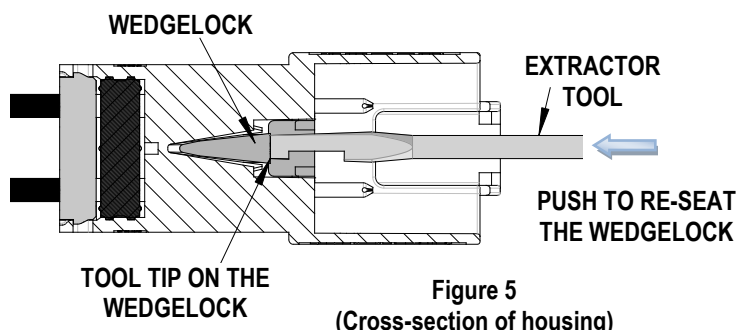

Figure 5
4. To re-seat the Wedgeloek, place the Wedgeloek in the connector and use the tool tip to push the Wedgeloek in until it snaps in place. See Figure 5.